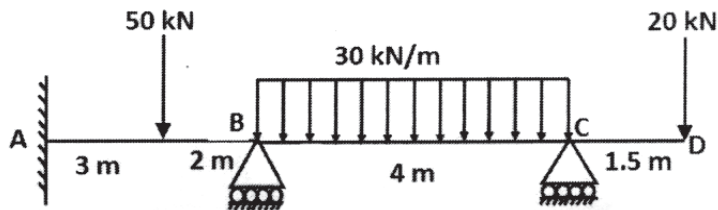

Fig. 2
- Q5) Analyze the continuous beam as shown in figure 2 using finite element method. Take EI constant. [18]